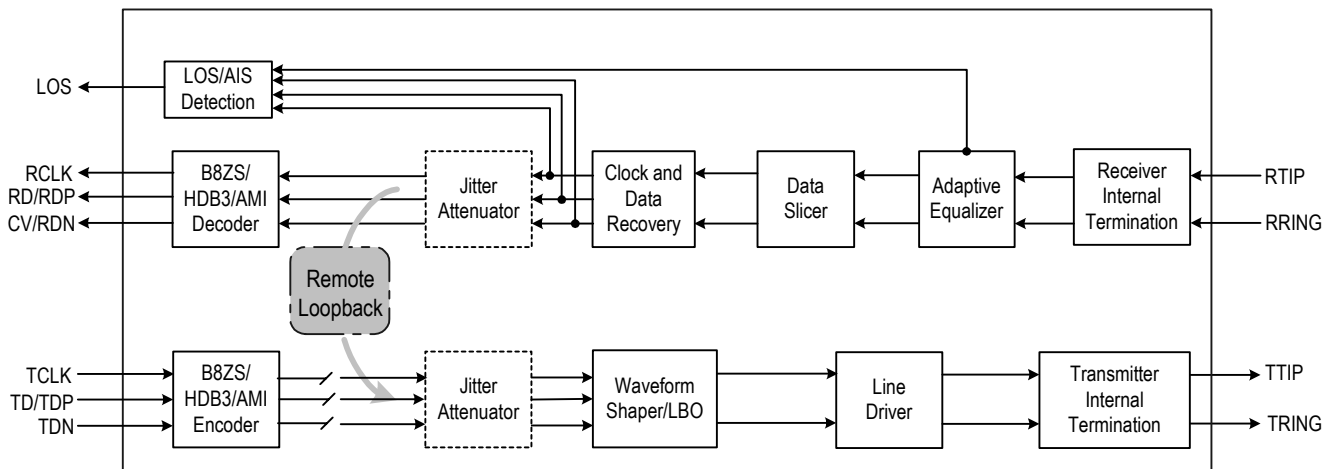

Figure-15 Remote Loopback
When the RLP bit (**MAINT1, 0EH**) is set to '1', the chip is configured in Remote Loopback mode. In this mode, the recovered clock and data output from Clock and Data Recovery on the receive path is looped back to the jitter attenuator (if enabled) and Waveform Shaper in transmit path. Figure-15 shows the process.
5.1 s, the Remote Loopback (shown as Figure-15) will be established automatically, and the RLP_S bit (**STAT1, 18H**) will be set to '1' to indicate the establishment of the Remote Loopback. The IBLBA_S bit (**STAT0, 17H**) is set to '1' to generate an interrupt. In this case, the Remote Loopback mode will still be kept even if the receiver stop receiving the Activate Loopback Code.